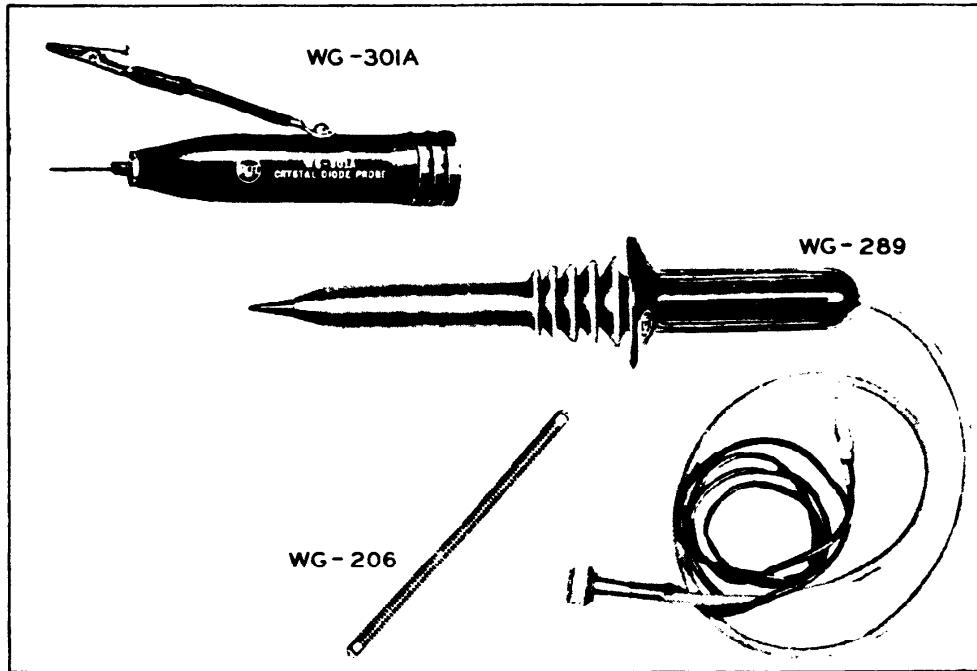

Figure 9. Accessories available on separate order
The graph makes possible rapid conversion of rms voltages to corresponding dbm values. Associated power levels can be read along the top of the graph. If the rms voltage is measured across a resistive load other than 600 ohms, the correction factors given below must be added algebraically to the dbm values read from the graph in Figure 9. For resistive loads not given in the table, the following formula should be used for determining the correction factor:
* DBM is the increment to be added algebraically to the dbm value read from Figure 9.